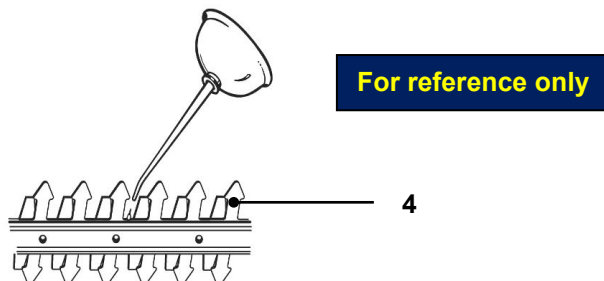

Fig.10
2. Apply a small amount of suitable lubricant on the cutting device **(4)** to retain a good cutting performance (Fig. 10).